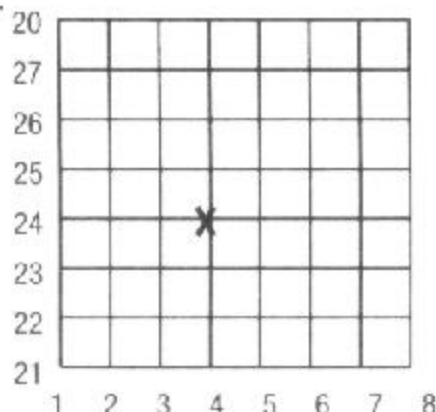

FIG. 5
COORDINATES. THE LOWER LEFT IS THE ORIGIN AND COORDINATES ARE READ TO THE RIGHT AND THEN UP. EXAMPLE: SEE FIG. 5
2. COORDINATES • FIG. 5 - GRID COORDINATES